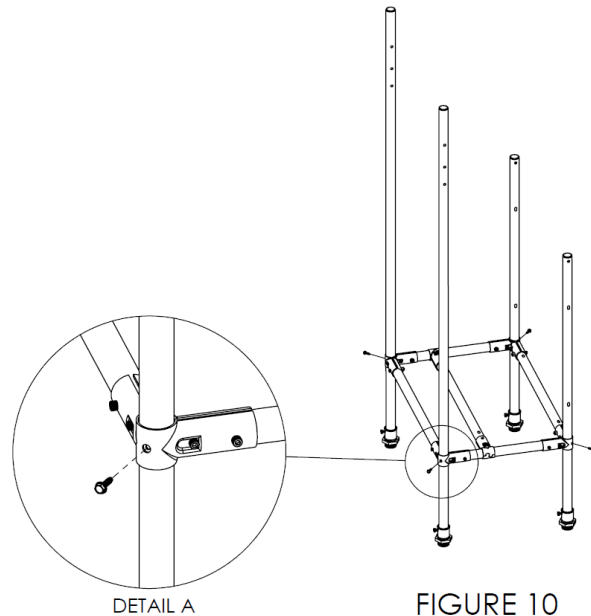

FIGURE 10
7. Align the corner hole in each corner bracket with the corner hole approximately 11 inches from the bottom of each upright (**FIGURE 10**). Insert a #10 X 5/8" self-tapping fastener through the corner bracket and into the hole in each upright and fully tighten. (**DETAIL A**). Do not overtighten the self-tapping fasteners.